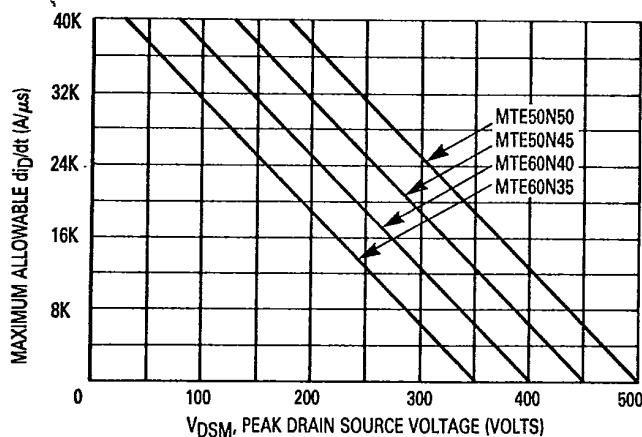

Figure 15. Maximum Allowable  $di_D/dt$  versus
where  $P_D$  is the maximum power rating at 25°C,  $R_{\theta JC}$  is the junction-to case thermal resistance, and  $r(t)$  is the normalized thermal response from Figure 15, corresponding to the appropriate pulse width and duty cycle.
- Note 4** Even with good RF layout and ideal clamping below the maximum  $V_{(BR)DSS}$  of the device, significant potentials may be generated across the package drain and source parasitic inductances during rapid turn off of a large magnitude of current. These induced voltages which are internal to the package add to the clamp voltage. Therefore, to protect the chips from excessive voltage, the  $di_D/dt$  must be limited in accordance to the peak voltage seen across the terminals of the device. The **MAXIMUM ALLOWABLE**  $di_D/dt$  must be limited in accordance to the peak  $V_{DS}$  appearing at the device terminals as shown in Figure 15.